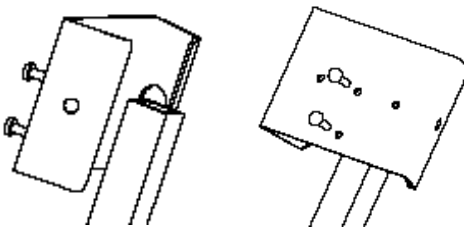

Figure 3: GPS Bracket installed in horizontal orientation that provides a flat face for attaching a GPS receiver other than a Garmin 72.
Attach the GPS Bracket (A) similar to Horizontal Orientation 1 but with flanges facing backward (fig. 3). This provides a flat face. Attach the GPS receiver to the plate. Velcro and cable ties are included in the package of screws to help facilitate this. Another option for attaching your GPS receiver would be with a holder from Ram Mounts Inc. (www.ram-mount.com). They market holders for a wide variety of GPS receivers from different manufacturers.